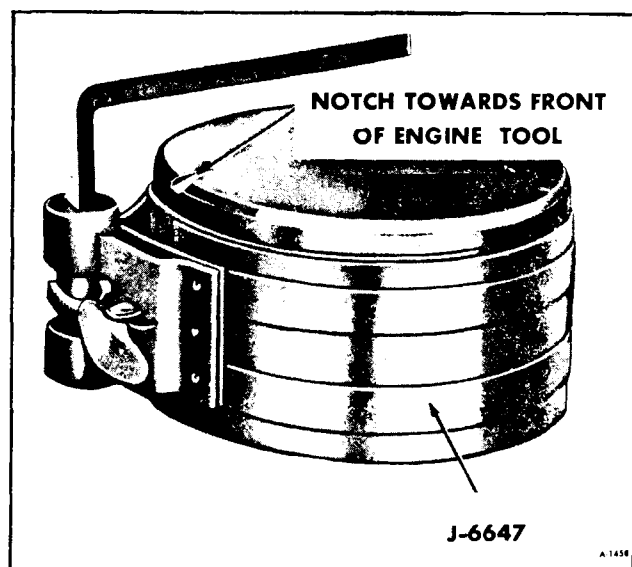

Figure 46—Piston Ring Compressor
2. Apply engine oil to rings and piston, then install piston ring compressing tool on piston. See Figure 46.